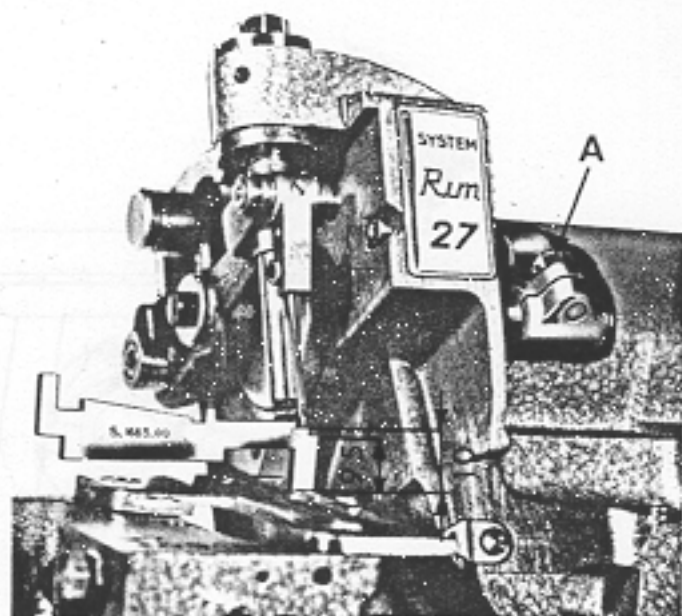

fig. 3
3. Positioning the needle (fig. 3).
- If adjustment of the needle clamp is necessary, loosen bolt A (fig. 3) and set distance with gauge S. 1665.00